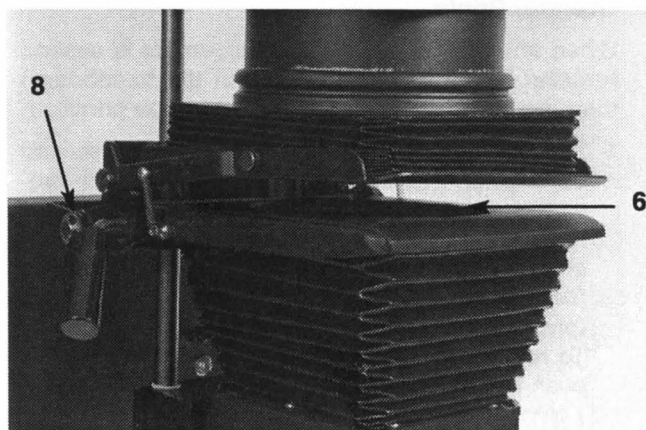

Figure 6
A. Inserting the Negative (Fig. 6)